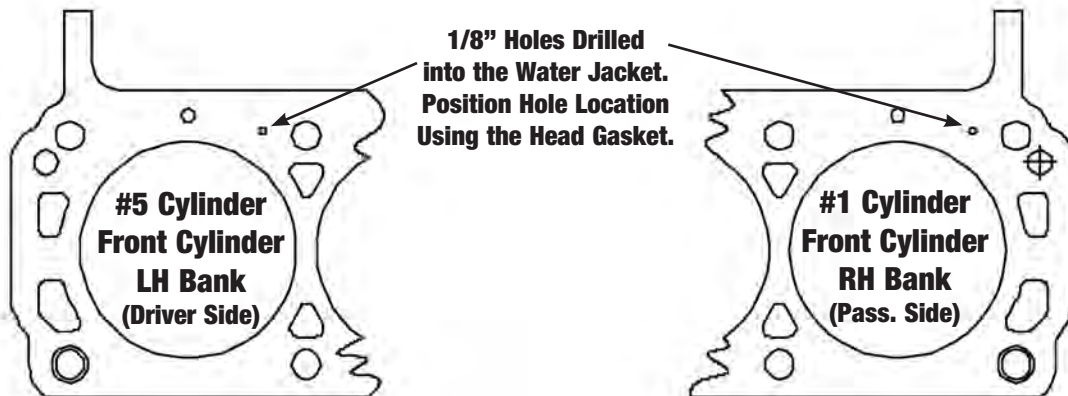

Figure 2 - Steam Hole Locations for Early 289 & 302 Engine Blocks (pre-1972)
1. Check the upper deck to see if you have an early or late model block (not needed with 351W): a) Late model 289-302 blocks have the water passages located next to the head bolt location on the deck of the block (This block **will not** require drilling). b) Early 289-302 blocks, pre-1972, will have the water passages located directly over the cylinder upper deck area and will require drilling 1/8" steam holes as shown in Figure 2.